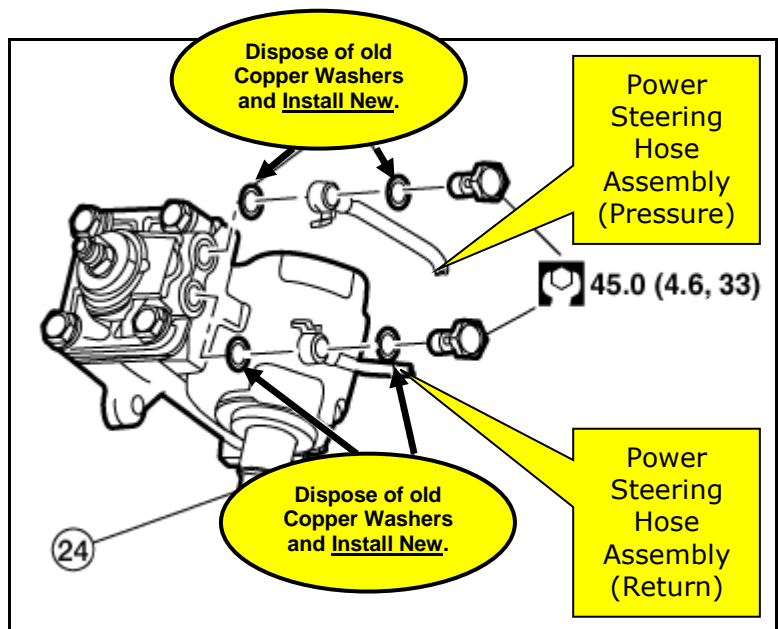

Figure 11
7. Install Power Steering Hose Assembly (**Pressure & Return**) connection eye bolts with four new copper sealing washers (Figure 11).